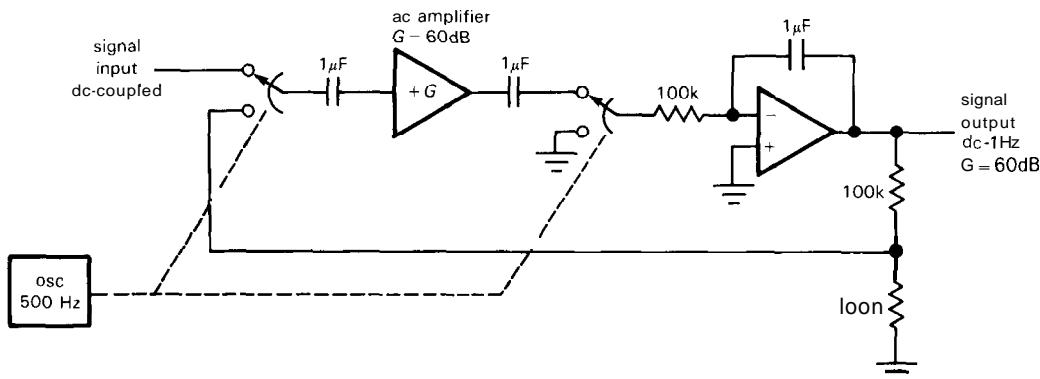

Figure 7.21. An ac-coupled chopper amplifier.
- ac-coupled "chopper amp."* When considering auto-zeroing chopper amplifiers, be sure you don't confuse this technique with another "chopper" technique, namely the traditional low-bandwidth chopper amplifier in which a small dc signal is converted to ac ("chopped") at a known frequency, amplified in ac-coupled amplifiers, then finally demodulated by multiplying with the same waveform used to chop the signal initially (Fig. 7.21). This scheme is quite different from the full-bandwidth auto-zeroing technique we've been considering in that it rolls off at signal frequencies approaching the clock frequency, typically just a few hundred hertz. You sometimes see it used in chart recorders and other low-frequency instrumentation.